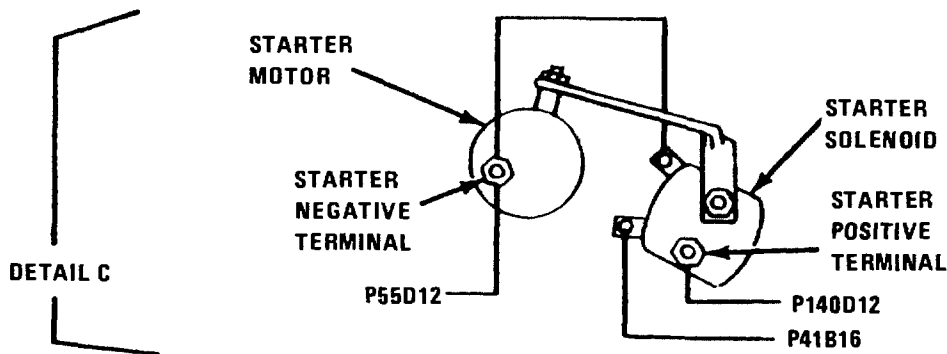

Figure 4-18. Wiring Harnesses, Removal and Installation (Sheet 5 of 5)
- (3) Replace defective terminal lugs or connectors.
- (4) If disconnected, connect negative battery cable.
- g. Installation. Refer to figure 4-18 and install wiring harnesses. Pay particular attention to the following:
- (1) Connect harness connectors and wires.
- (2) Secure harnesses with clamps.
- (3) Join harnesses in common run from one side clamp of engine to opposite side clamp at 6 inch (150 mm) intervals with tiedown straps.
- (4) Refer to FO-3 and check harnesses for proper connection.
- (5) Connect negative battery cable.